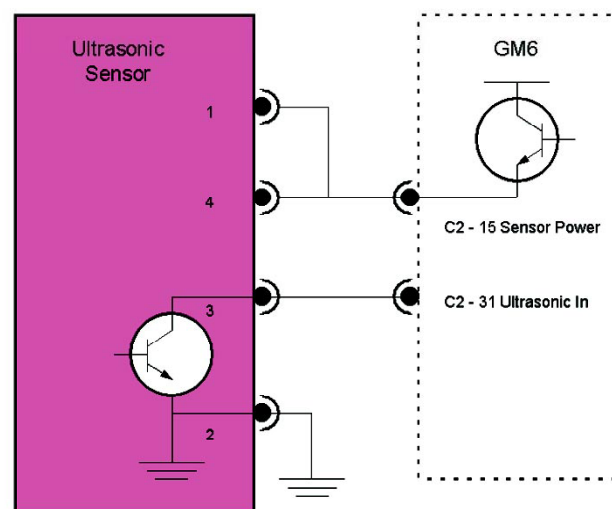

Figure 35
The volumetric sensor has four connections: power (4), earth (2), trigger (3) and a further 12 volt feed for vehicle type configuration (1) (see Figure 35). The trigger line is pulled up to battery voltage by a resistor in the GM6 when the volumetric sensing is active. The alarm is triggered by the sensor switching the trigger line to ground. This signal is picked up by the GM6, which drives the alarm.